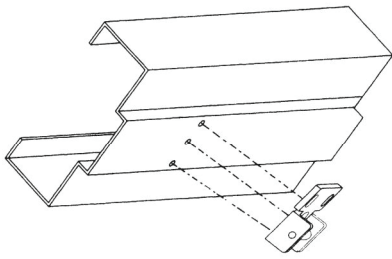

Figure 13
- g. Mark mounting holes for top strike on door jamb using the strike template. (See Figure 13.)